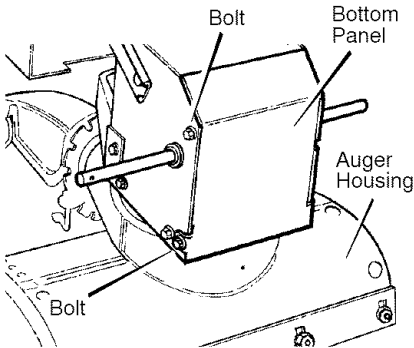

Figure 19
2. Loosen the **bolts** on each side of the **bottom panel** (see Figure 19).
18. Install the **bottom panel** (see Figure 19).
13. Install the **bottom panel** (see Figure 19).